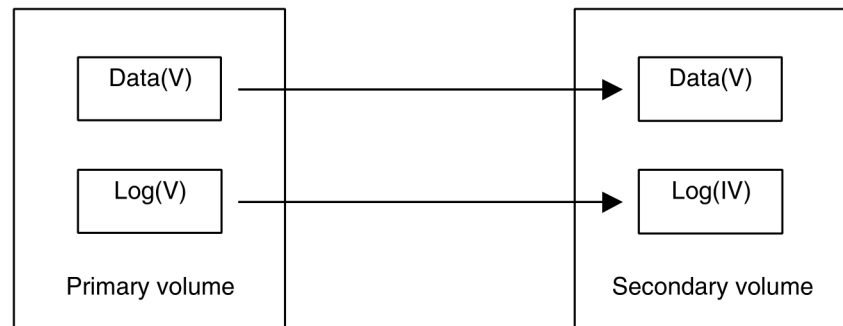

Figure 24. Relationship between log file and data file in PAIR status
When a takeover by the S-VOL occurs as shown in Figure 24 (two errors have already occurred), Data(V) remains in the rollback process at the secondary host, and full recovery cannot be performed. To prevent this, you can define the fence level of the Redo log file as Data, so that the P-VOL returns an error if a data disagreement occurs concerning a write request from the host. The Data fence-level setting maintains full consistency between the Redo log file and the data file because the write error at the log file prevents data being written to the data file.